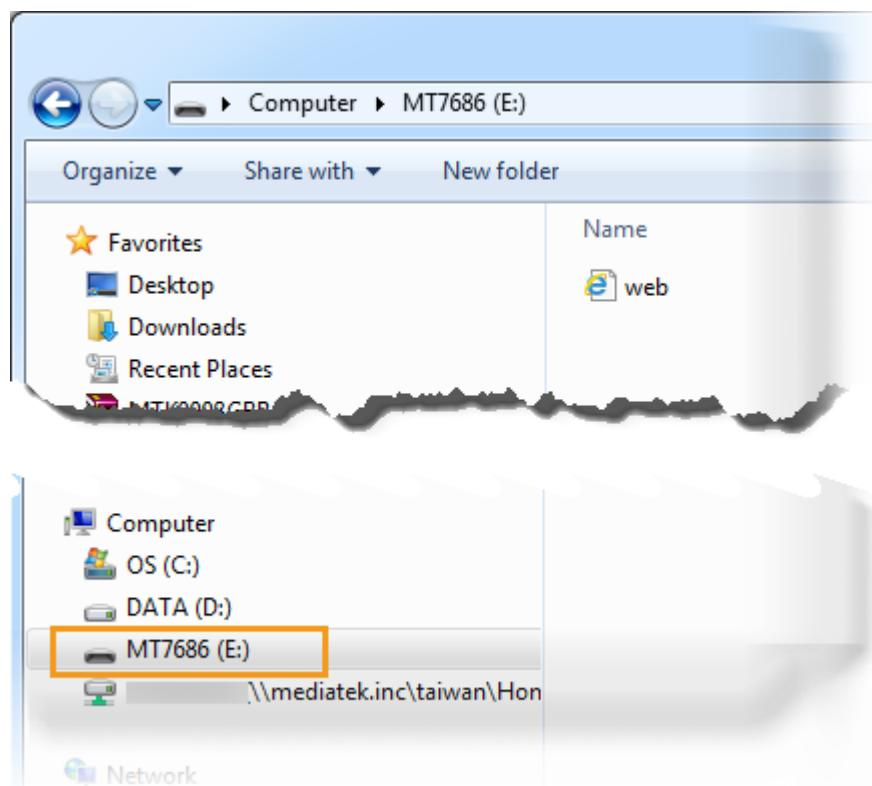

Figure 27. MT7682 removable storage detected
- 2) Navigate to **Computer** on your PC to check if a new mass storage named **MT7682** is available under **Removable Disk**, as shown in Figure 27.